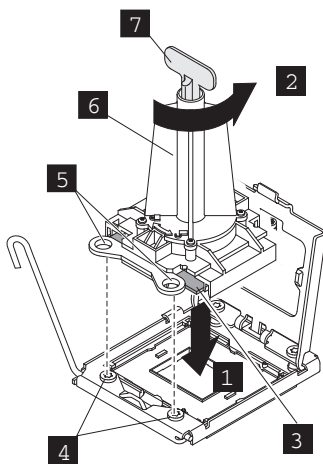

Figure 196. Inserting the microprocessor into the socket
- h. Align the triangular alignment mark (**4** in Figure 196) on the microprocessor installation tool with the triangle alignment mark on the microprocessor. Then, place the microprocessor on the underside of the tool so that the tool can grasp the microprocessor correctly onto the bottom of the installation tool.